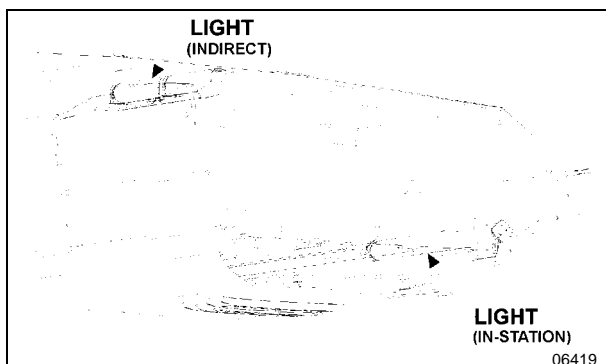

FIGURE 33: PARCEL RACK
3. Lift the hinged cover and replace the two retaining screws (**FIGURE 33**).